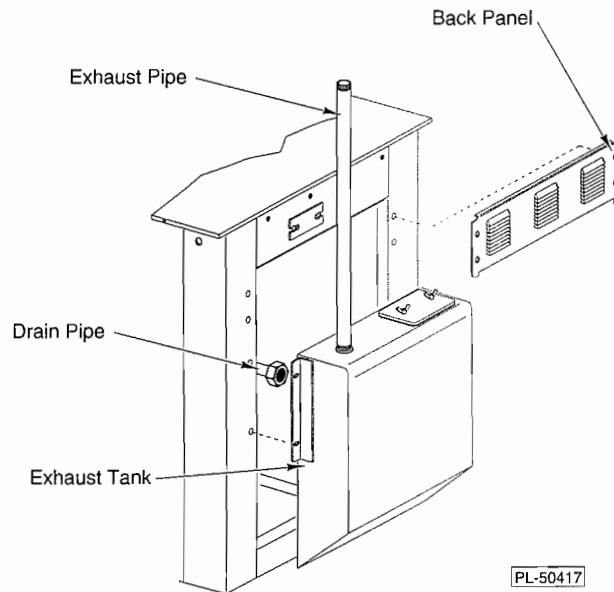

Fig. 32
1. Remove (4) screws in back panel (Fig. 32) and remove back panel.
2. If the exhaust pipe (Fig. 32) hinders removal of the exhaust tank, unscrew the pipe and remove it.
3. Disconnect the drain pipe (Fig. 32) that runs from the kettle pressure regulator housing to the exhaust tank at the union.
5. Remove (4) screws holding exhaust tank in place (see Fig. 32) and remove exhaust tank.